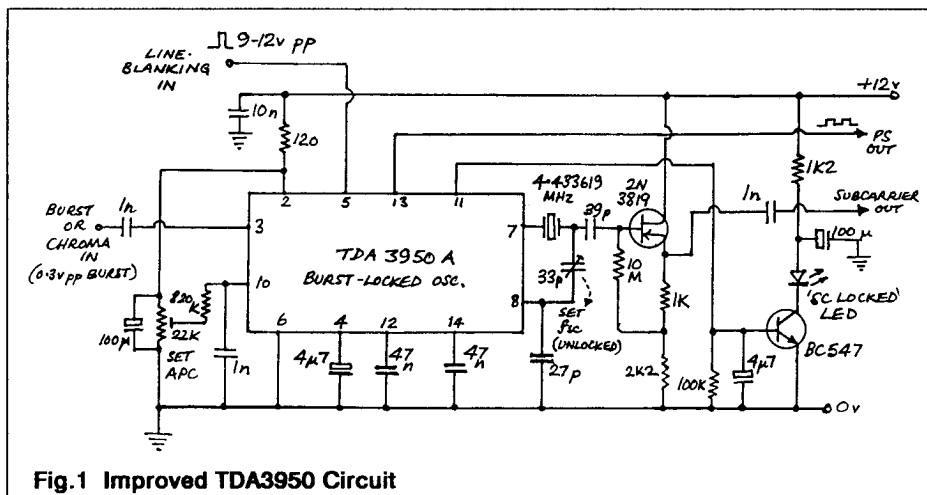

Fig.1 Improved TDA3950 Circuit
So let's get it clear – the pulse required on pin-5 of the TDA3950(A) is LINE BLANKING, 9-12vpp. It must be continuous throughout the field period, as its leading edge triggers PS, and it must cover the back-porch line period, as it is used to gate the burst. If you do that, the circuit is pretty reliable, so long as it is fed with a reasonably constant level of chroma – unfortunately the TDA3950 does not include an ACC circuit. See Fig.1.